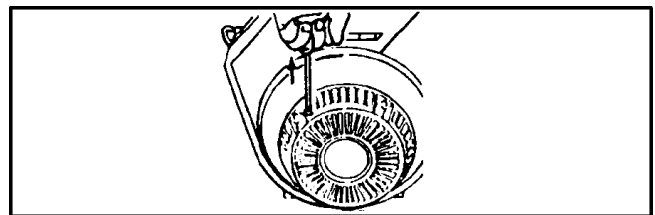

Figure 3-4. Recoil Starter - Vanguard Engine.
2. Place the gearshift in the neutral (N) position. Engage the hand lever holding brake and the emergency/parking brakes.
5. Grasp starter grip as illustrated and pull slowly until recoil engages (Figure 3-4).